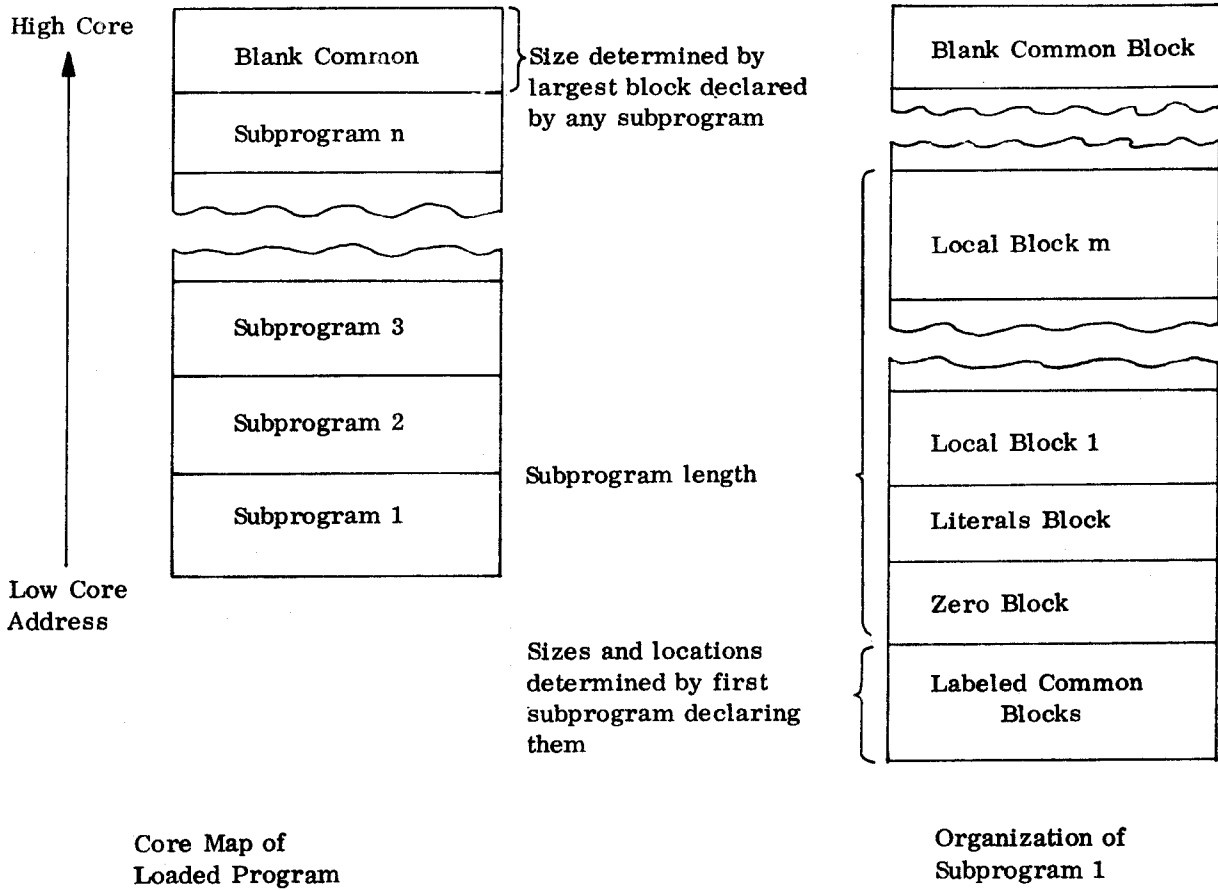

Figure 3-1. Relocatable Program Structure
Upon completion of assembly of a relocatable subprogram, COMPASS assigns each local block an origin relative to the zero block (Figure 3-1). Output is in the form of tables for the Relocatable Loader. Each local block thus becomes an extension of the zero block. The length of the subprogram given on the assembly listing is the sum of the final values of the origin counters for the local blocks, including the zero block and literals block, but not the absolute block. Any absolute text is simply inserted at the absolute location relative to RA (S).